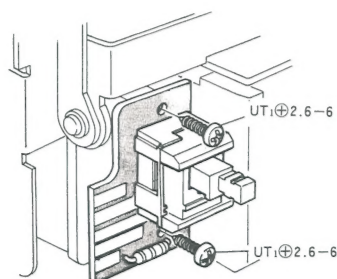

Fig. 11
- 1) Take out the 2 screws to remove the REC MUTE plate. (See figure 11).